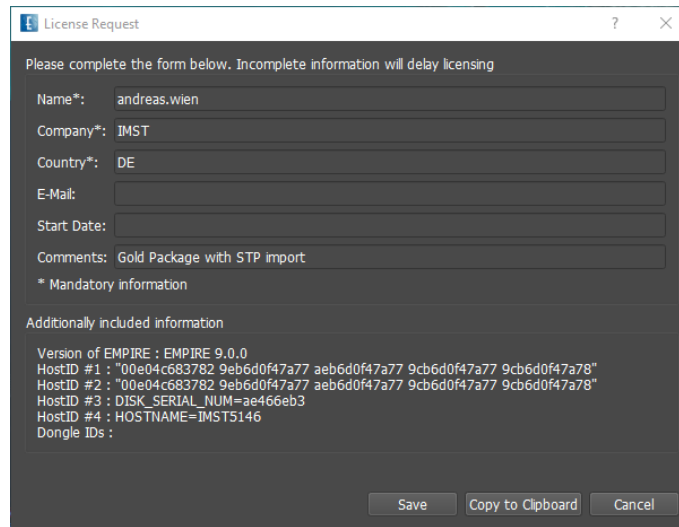

Figure 2.4.: EMPIRE XPU™ License Request Window
**Step 3:**                   The **License Request Form** will open as in Fig. 2.4